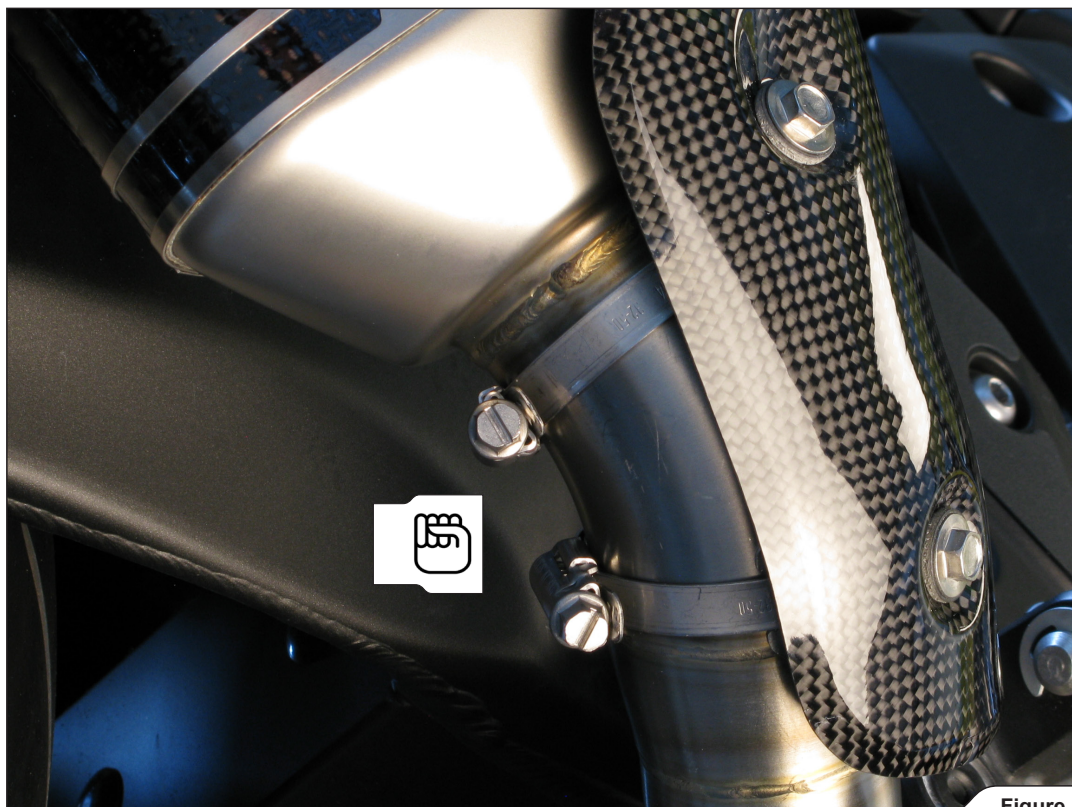

Figure 5
3. Install the heat shields onto both link pipes and hand tighten the tape clamps, so the heat shields can still be adjusted (Figure 5, 6).